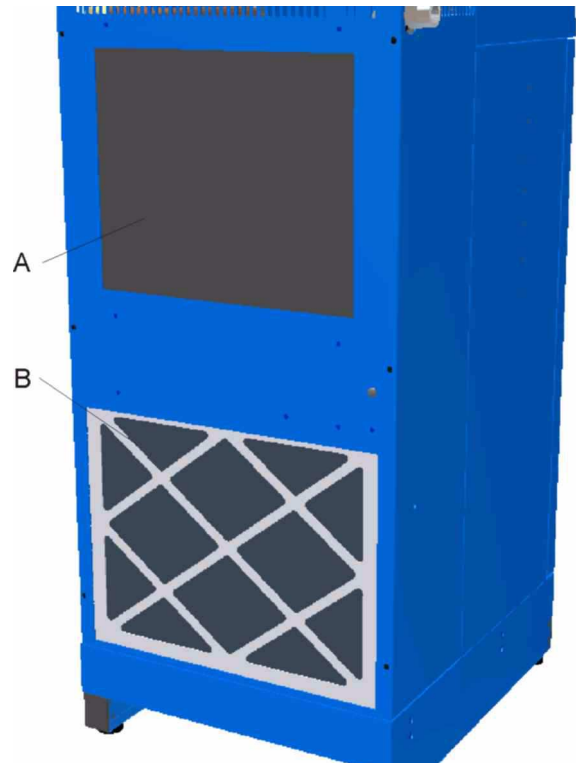

Fig. 9.4 - Matrix Cleaning
9.13 Clean Oil Cooler/Aftercooler (Fig. 9.4)